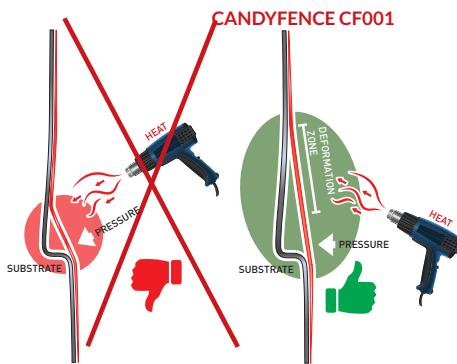

Figure 10
- › Stretch the film over the substrate so that it touches the peaks only. (FIG. 10)